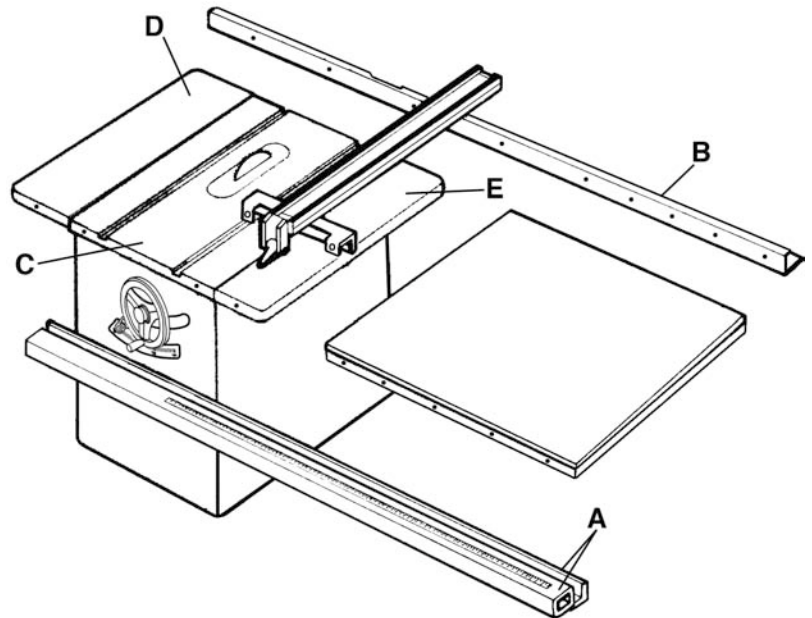
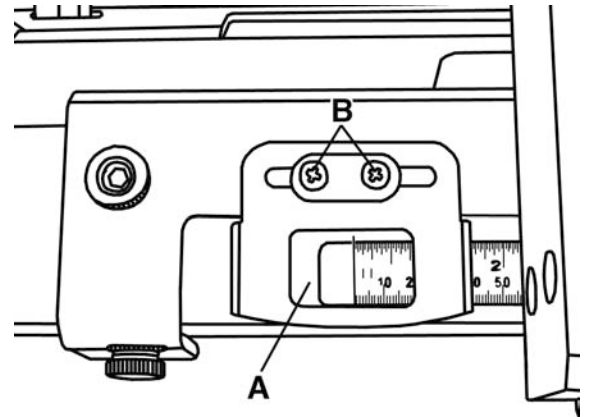

FIGURE 1
FIGURE 4
Place and align the mounting holes of the front rail and tube assembly (A) Fig.1 with the holes in the front lip of the table (C) and extension wings (D & E). Install the front rail and tube assembly to the table and extension wings using 4 hex. bolts, 8 washers, 4 spring washers and 4 hex. nuts.
Place and align the mounting holes of the rear rail (B) Fig.1 with the holes in the rear lip of the table (C) and extension wings (D & E). Install the rear rail to the table using 2 hex. bolts and 2 washers.
Slide the fence against the saw blade. Place the measuring tape on the tube (A) Fig.1 under the pointer window (A) Fig.4. The pointer window contains 2 small red lines which represent the thickness of the blade kerf, line up the zero mark of the measuring tape underneath the red line on the left side. Make sure the measuring tape is positioned perfectly parallel to the tube and that the measurements are clearly visible.
Remove the fence. Peel away a small portion at a time of the measuring tape backing and carefully install. We suggest taking your time during this installation, if a mistake is made and the zero mark does not align perfectly, you can loosen the pointer window screws (B) Fig.4, reposition the pointer window in the correct position and retighten the screws.